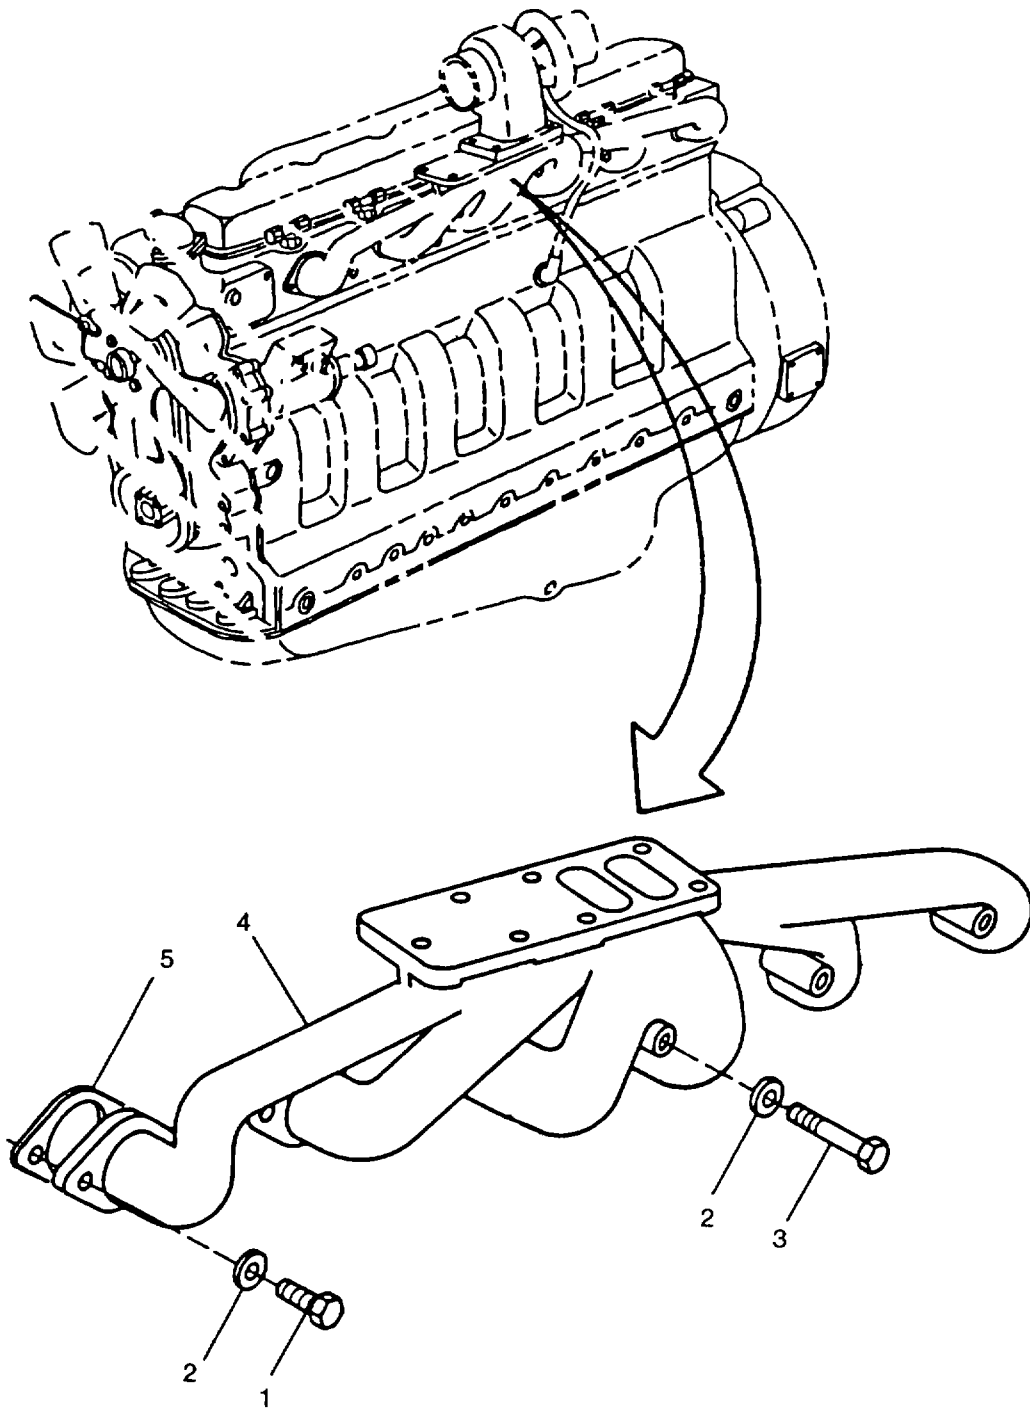

FIGURE 3-44. Exhaust Manifold
- b. Remove eight capscrews (1 and 3, FIGURE 3-44) and washers (2), securing exhaust manifold (4) to engine. Remove manifold and six gaskets (5); discard gaskets.
- Using six new gaskets (5, FIGURE 3-44) position exhaust manifold (4) on cylinder head. Coat all twelve capscrews (1 and 3) with antiseize compound (CP-8) and install with washers (2) in locations as noted during removal. Tighten capscrews to 35 ft-lbs (47 Nm).